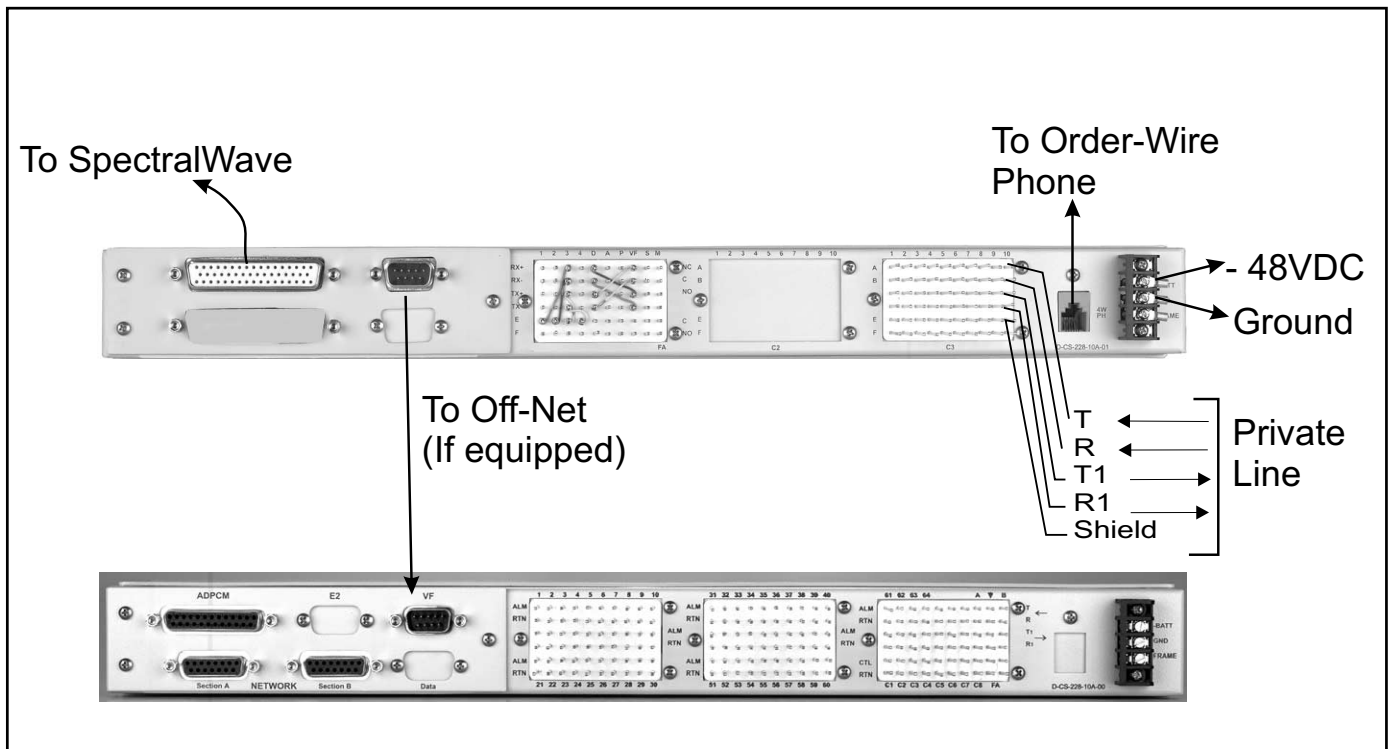

Fig. 20- When installing an order-wire package, connect inter-shelf cables.
14. If a package with companion shelves is being installed, add jumper connections per Fig. 20.